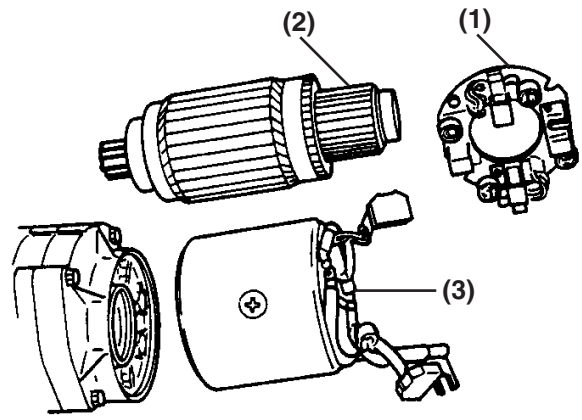

Figure 4-6-31
8. Reinstall the plate onto the intermediate housing and carefully reinstall the armature assembly (**Figure 4-6-31, (2)**) into the pinion shaft assembly.
9. Reinstall the field assembly (**Figure 4-6-31, (1)**) over the armature assembly and align to the pinion housing.